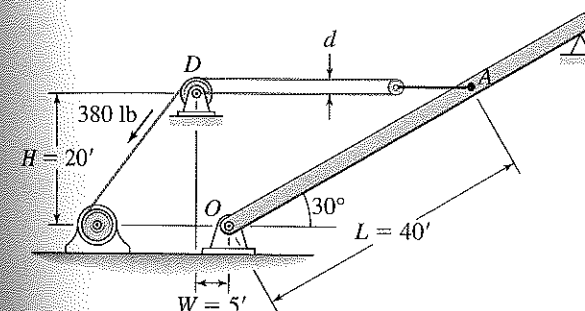

Figure P5.56
- 5.56 Consider the system for lifting a mast, discussed in Chapter 3 and shown again in Figure P5.56. The 70-ft-long mast weighs 500 lb. The winch applies a force $f = 380 \text{ lb}$ to the cable. The mast is supported initially at an angle of $\theta = 30^\circ$, and the cable at A is initially horizontal. The equation of motion of the mast is